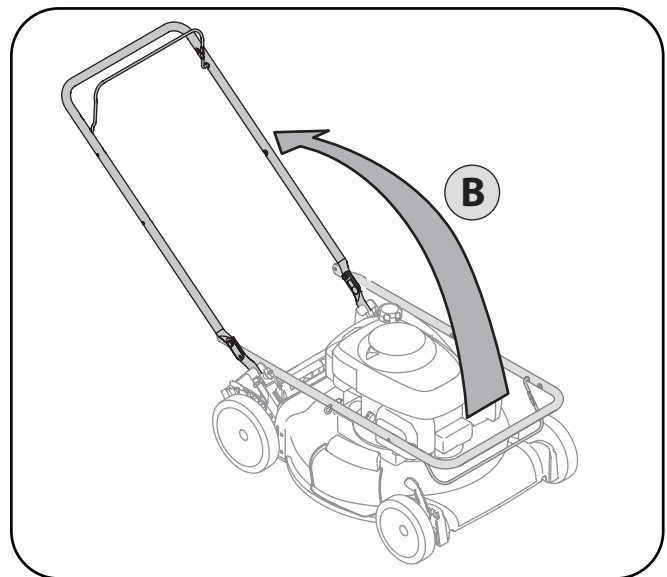

Figure 3-2
- b. While stabilizing mower so it doesn't move, pivot upper handle up as shown in Fig. 3-2. Do not crimp cable while lifting the handle up.